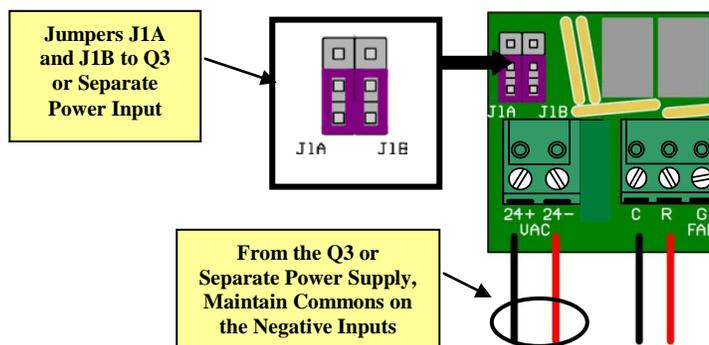

Figure 4: Settings and Connections for Powering the RTU from the Power Supply
Step 1: Set J1A and J1B jumpers for 24+/24- input connectors by moving the jumpers to the down position (Figure 4).
Step 2: Connect the common power lead to 24- and the hot to 24+ (Figure 4). Use a minimum of 18 AWG wire.